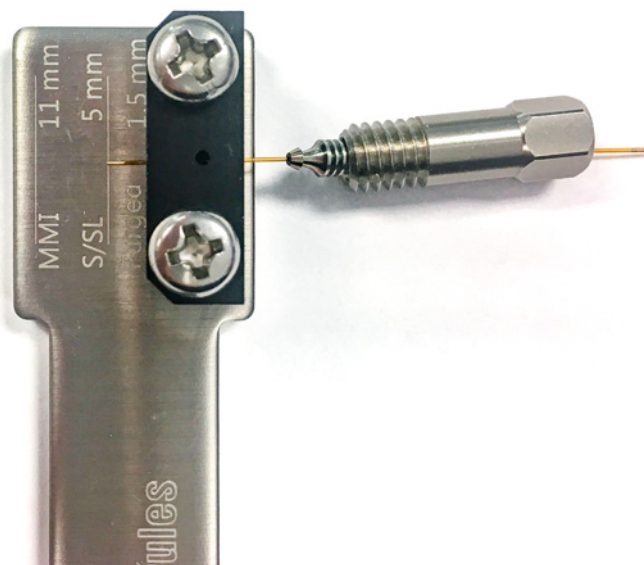

Figure 13. Thread the column through the column nut, ferrule, and swaging tool
- Pass the column end through the column nut, the ferrule, and the swaging tool, as shown in Figure 13.